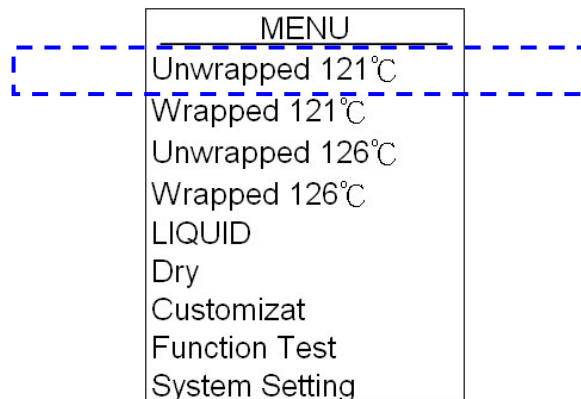
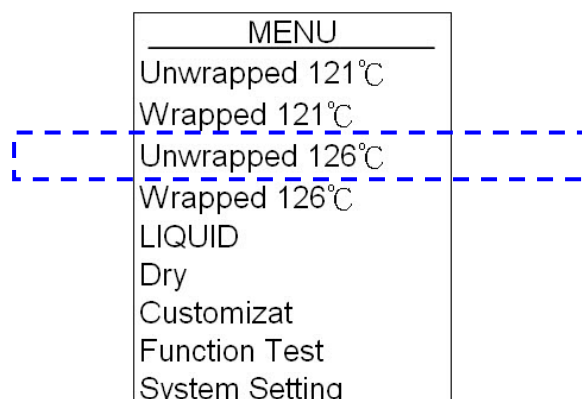
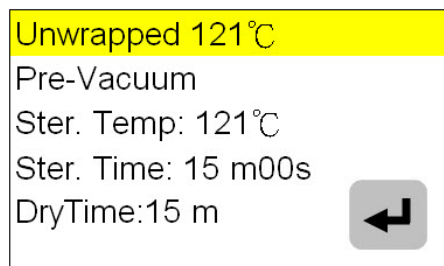
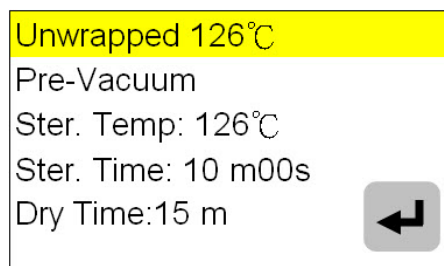

Figure 47
Figure 48
Figure 49
Figure 50
- C. The built-in program have 4 standard sterilization program are 121°C and 126°C for wrapped and un-wrapped loads. Press  or  button to select the suitable program cycle such as “Unwrapped 121 °C”(Figure 47) or “Unwrapped 126°C” (Figure 48), and then press  button to confirm sterilization program, as shown in Figure 49 or Figure 50 respectively..